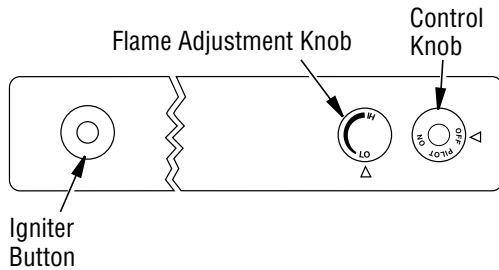

Figure 28 - Control Knob and Igniter Button Location (Shown as Supplied, No Control Options)
4. Press in and turn control knob clockwise  to the OFF position (see **Figure 28, Page 21**).
5. Wait five (5) minutes to clear out any gas. Then smell for gas, including near the floor. If you smell gas, STOP! Follow "B" in the safety information, **on this Page**. If you don't smell gas, go to the next step.
6. Press in and turn control knob counterclockwise  to the PILOT position. Press in control knob for five (5) seconds (see **Figure 28, Page 21**).